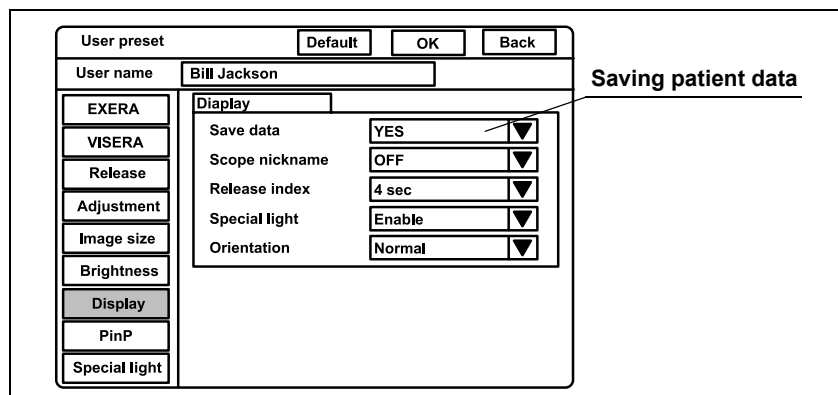

Figure 9.31
1. Click “Display” on the system setup menu. The setting items appear on the right side of the window (see Figure 9.31).
2. Click “▼” of “Save data” (see Figure 9.31). The setting values of “Yes” and “No” appear in the pull-down menu.